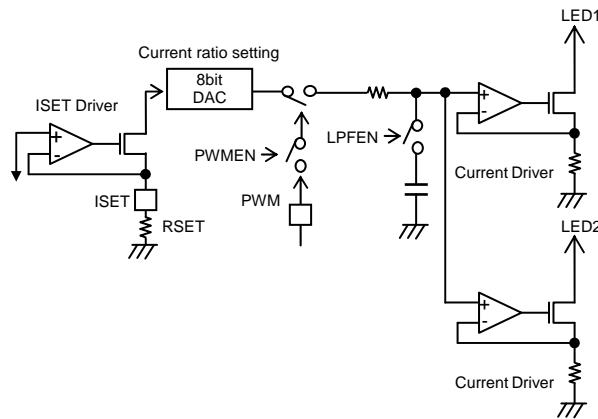

Figure 68. Brightness control
(1)DC Dimming controlled by 8bit current DAC, as shown in Figure 68.